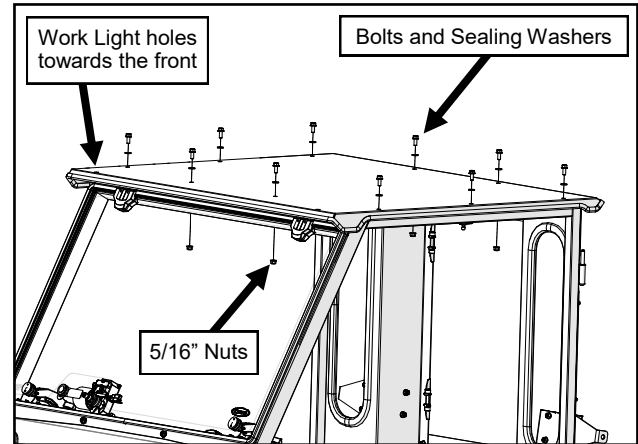

Fig. 15.2 (Install Roof)
- 15.2** Orient the roof so that the two work light holes are towards the front of the vehicle. With assistance, set the roof on top of the cab. Loosely secure with sealing washers on the (10) screws through the top of the roof. See Figure 15.2.